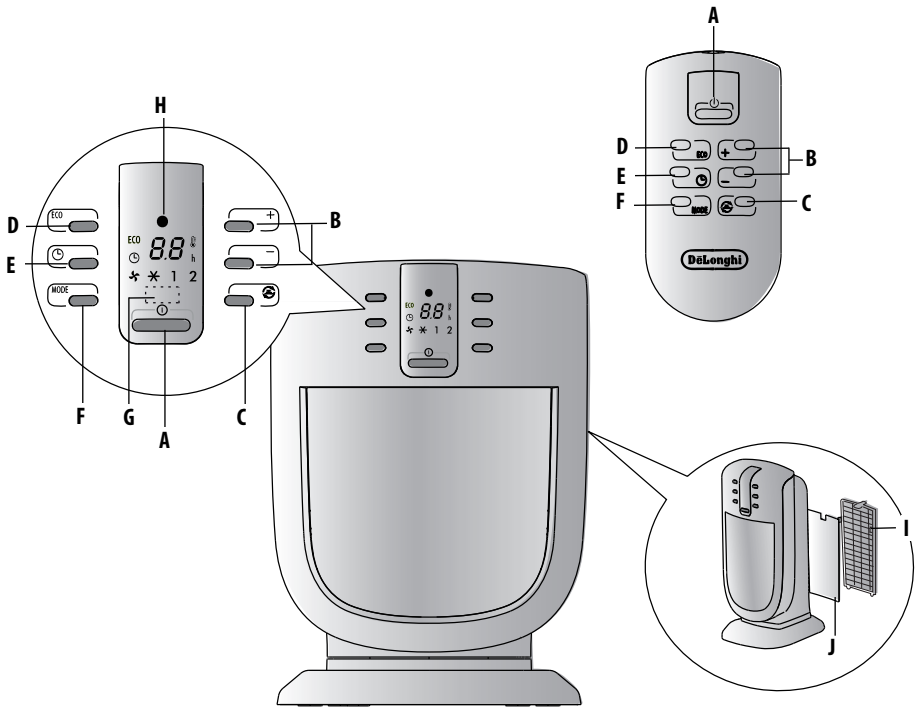

Fig. 1
- Remove the rear grille occasionally by pulling it outwards (fig. 1). Remove the dust filter which retains impurities in the air drawn in from the room, blow on it lightly then replace in the appliance.